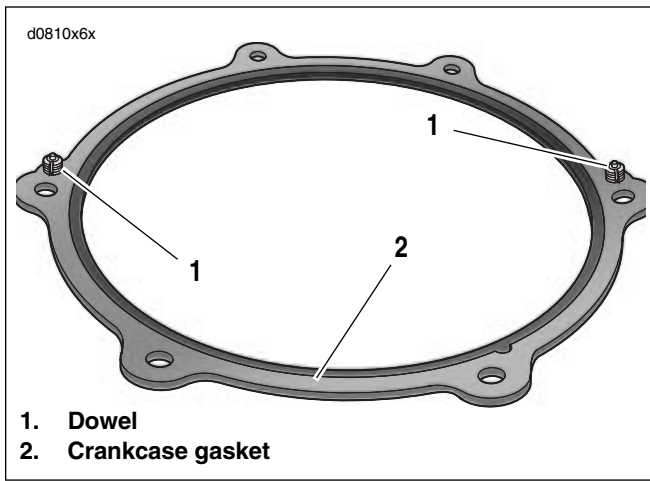

Figure 15. Crankcase Gasket
See Figure 15. In next step, be sure dowels (1) in **new** crankcase gasket (2) (Part No. 34934-06 from recall parts kit) engage holes in crankcase.